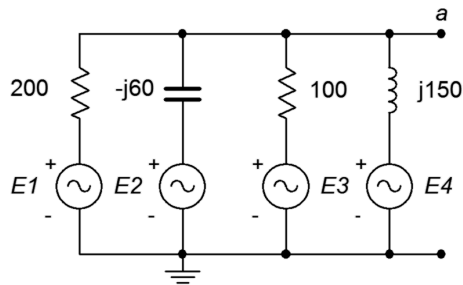

Figure 5.51
87. Given the circuit of Figure 5.51, determine an equivalent circuit using a single voltage source.